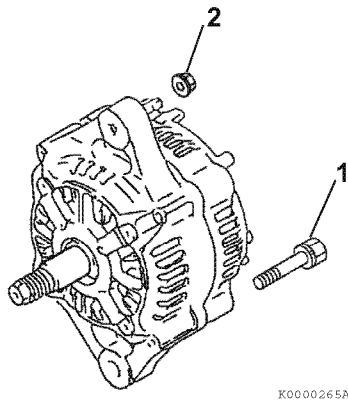

Figure 11-8
- Remove the two bolts (1, **Figure 11-8**) and two nuts (2, **Figure 11-8**) securing the rear frame housing to the front frame housing.